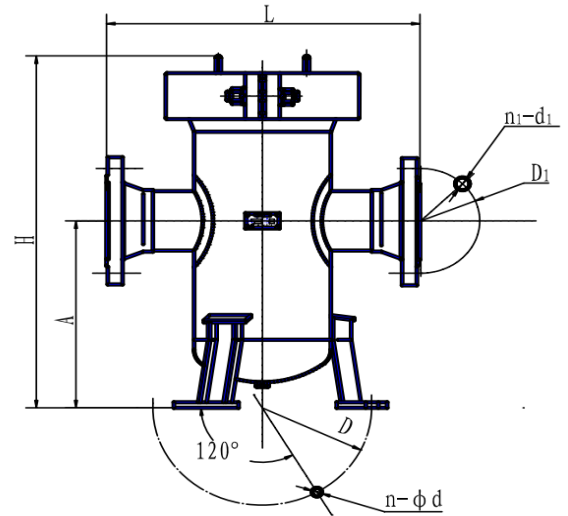

Figure 3 Upright Barrel Filter
1) The Dimensions & Installation Reference of LPGT Upright Barrel Filter (See Figure 3; Table 3).